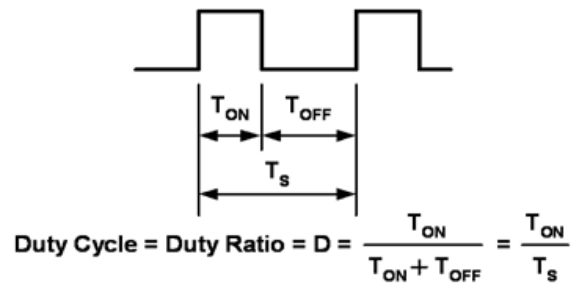

Figure 14.
The method of pulsing the current through the LEDs is known as Pulse Width Modulation (PWM) and has become the preferred method of changing the light level. LEDs being a silicon device, turn on and off rapidly in response to the current through them being turned on and off. The switching time is in the order of 100 nanoseconds, this equates to a maximum frequency of 10 Mhz, and applications will typically operate from a 100 Hz to 100 kHz. Below 100 Hz the human eye will detect a flicker from the light emitted from the LEDs. Between 500 Hz and 20 kHz the circuit may generate audible sound. Dimming is achieved by turning the LEDs on and off for a portion of a single cycle. This on/off cycle is called the Duty cycle (D) and is expressed by the amount of time the LEDs are on ( $T_{ON}$ ) divided by the total time of an on/off cycle ( $T_s$ ) (Figure 14).